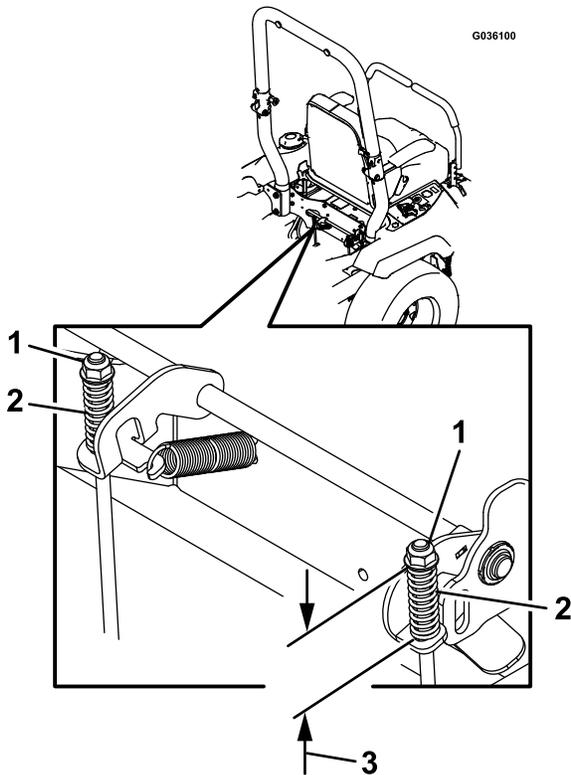

**Figure 71**
6. If an adjustment is necessary, disengage the parking brake. Remove the cotter pin from the brake linkage shaft (Figure 71).